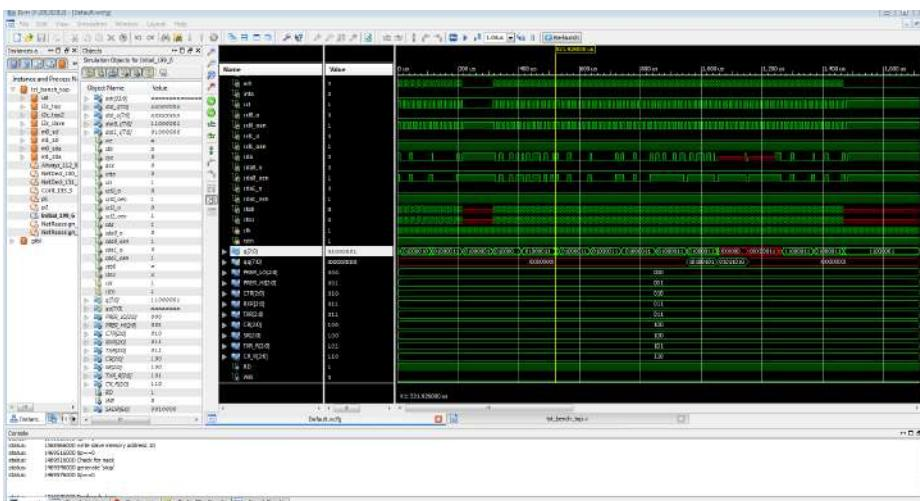

Figure 4-12 Full test bench simulation run
8. Go to the Default.wcfg tab and take a look at the waveform view. Zoom to full view to get a good look at the full simulation run (Figure 4-12).